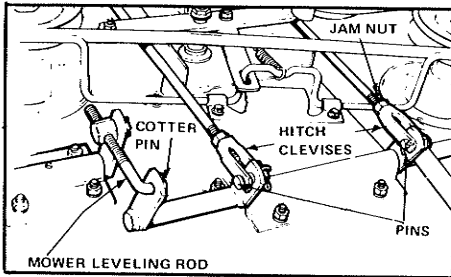

Figure 39. Levelling Mower
5. Remove the cotter pin holding on the mower levelling rod (figure 39). Shorten the rod to raise the left side of the mower, or lengthen the rod to lower the left side of the mower. Put the levelling rod back in its hold and recheck the measurements. When both sides are the same height, replace the cotter pin in the levelling rod.
- Remove the cotter pins and pins from the hitch clevises (figure 39). Turn each clevis an equal number of turns in the same direction. Shorten the hitch rods to raise the front of the mower, lengthen the hitch rods to lower the front of the mower.